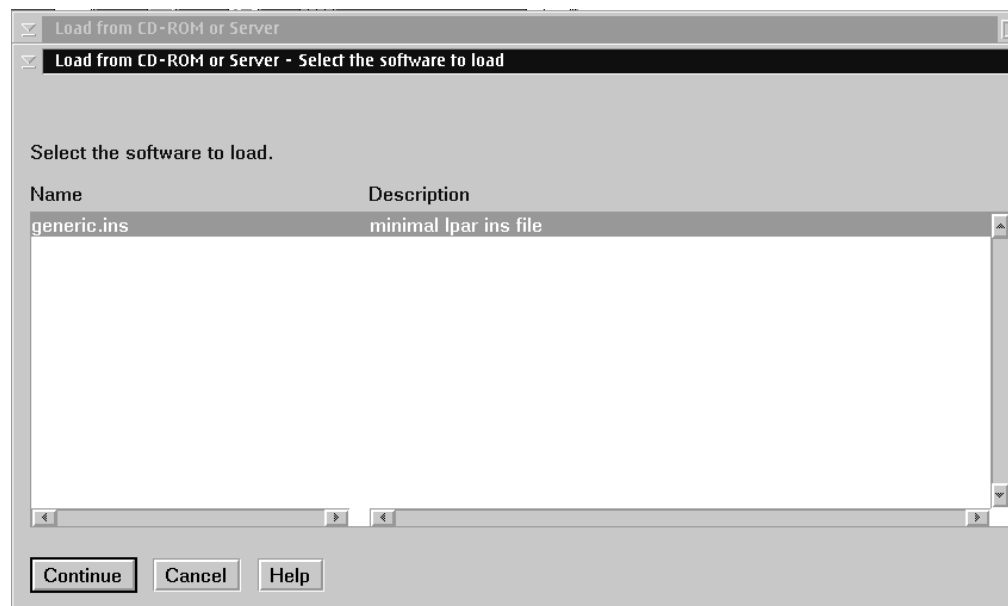

Figure 63. Select the software to load panel
7. Click **Continue** to display the “Select the software to load” panel (Figure 63).